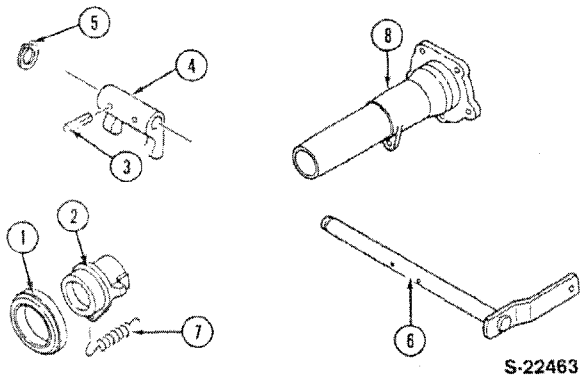

Figure 23
Reference — Figures 23 and 24
2. Remove the snap ring from the right hand end of the cross shaft, Figures 23 and 24.